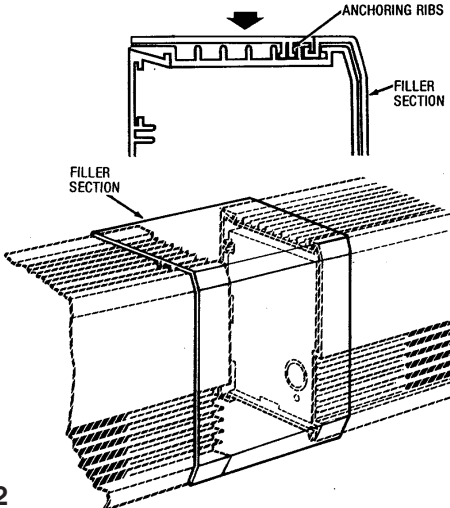

Figure 2
2. Position the filler section on top of the heater(s) and press anchoring ribs down between the outlet louvers (Figures 2). If necessary, protect the top of the filler section with a block of wood and tap the filler section gently into place.